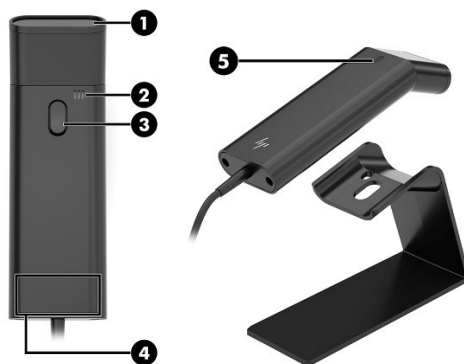

Fig. 1-1
1. Press and hold the trigger (see Fig.1-1). Then the scanner projects a red aiming beam.